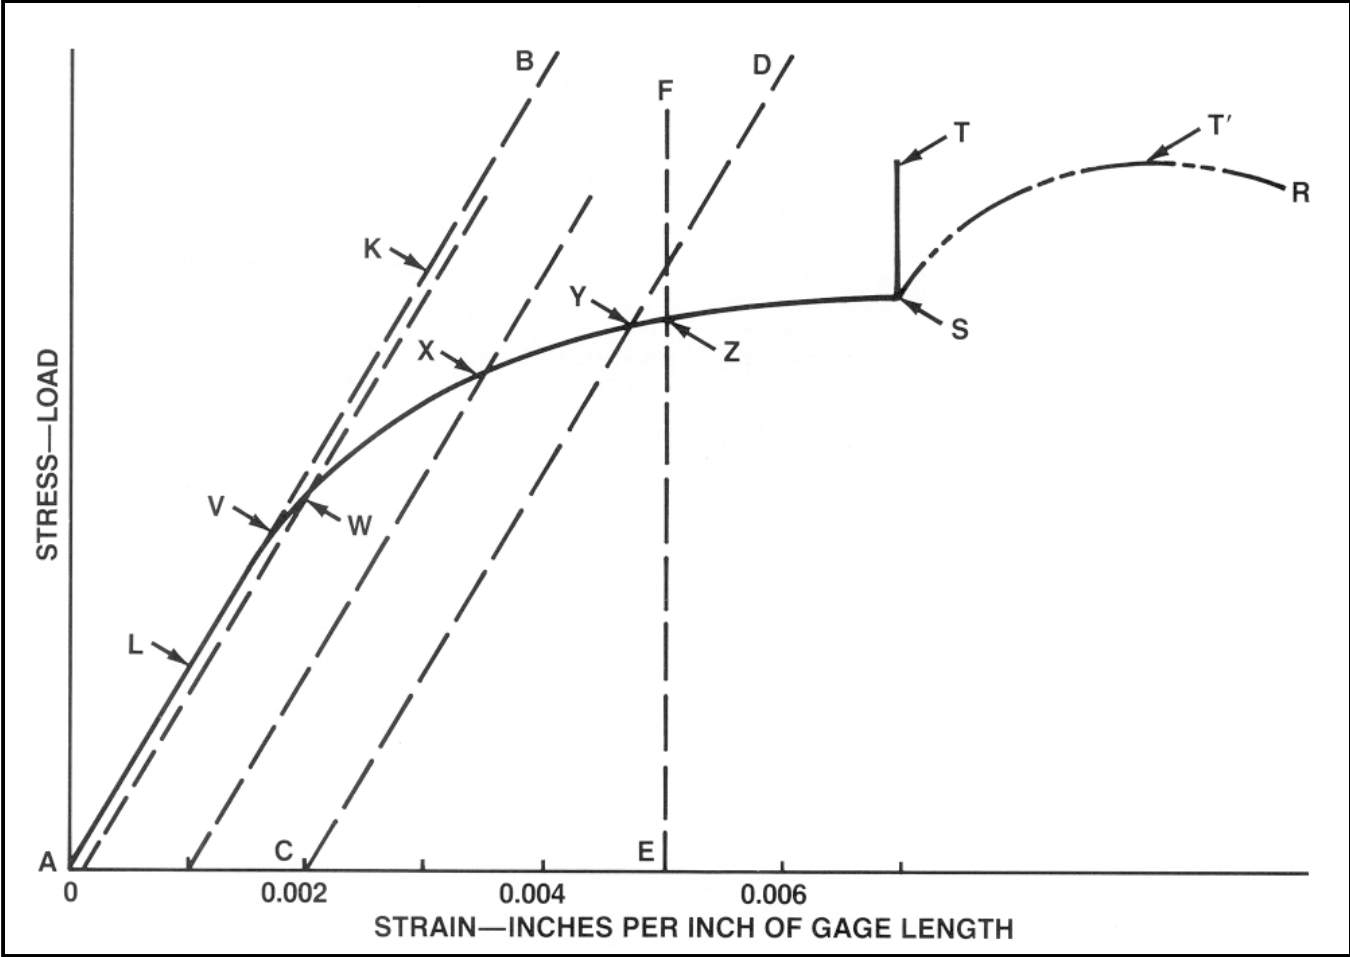

Figure 2 – Typical Tension Stress-Strain Diagram
1. Using a sharp pencil and a ruler, carefully draw a straight line through as much of the straight portion of the curve as possible, extending it from the bottom of the chart (Line A-B in Figure 2). This straight line is referred to as the **Modulus Line**, from which the **Modulus of Elasticity** will be calculated for the material tested.
1. **The Offset Method:** The **offset** is the horizontal distance between the modulus line and any line running parallel to it. For example, the line C-D in Figure 2 is "offset" from the modulus line by 0.2% (0.002 in./in.).
Starting at the origin of the curve, measure off a distance equal to 0.002 in./in. along the **X-axis**. Now using that as the origin, draw a line (C-D) parallel to the modulus line. Notice that the line C-D intersects the stress-strain curve at a certain point (Y in Figure 2). The ordinate of this point (the amount of stress in psi) is the **Yield Strength at 0.2% Offset**.
To make this determination, locate the point on the abscissa, which is equal to 0.5% (0.005 in./in.) of extension from the origin of the curve (E in Figure 2). Draw an ordinate line (E-F) from this point up through the curve. Convert the load value of this point into psi. The stress value is the **Yield Strength at 0.5% (0.005 in./in.) Extension Under Load**.
To do this, follow the offset method previously described, but use a small arbitrary number for the offset. The resulting yield strength is called the **Proof Strength** or **Proof Stress** of a specimen. Using this method gives you a straight line that intersects the curve at a load point (Point W in Figure 2), which unlike the proportional or elastic limit can be easily located.
Note: When the Yield Point is specified for a material, which does not exhibit a “sharp-kneed” curve, the conventional yield point (Point Z in Figure 2) is usually substituted.